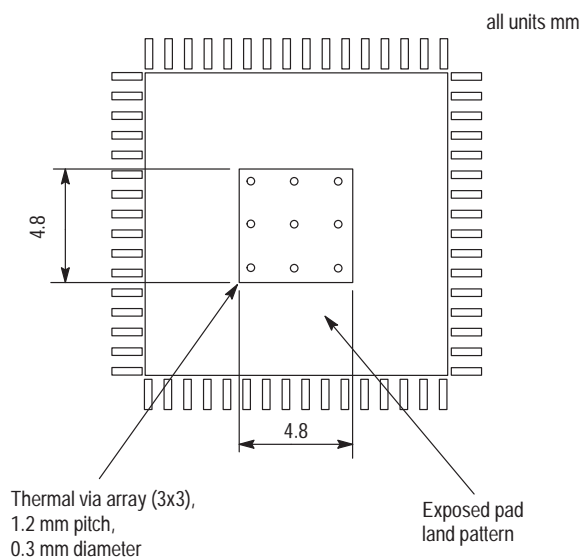

Figure 6. Recommended thermal land pattern
The MC100ES6220 uses a thermally enhanced exposed pad (EP) 52 lead LQFP package. The package is molded so that the leadframe is exposed at the surface of the package bottom side. The exposed metal pad will provide the low thermal impedance that supports the power consumption of the MC100ES6220 high-speed bipolar integrated circuit and eases the power management task for the system design. A thermal land pattern on the printed circuit board and thermal vias are recommended in order to take advantage of the enhanced thermal capabilities of the MC100ES6220. Direct soldering of the exposed pad to the thermal land will provide an efficient thermal path. In multilayer board designs, thermal vias thermally connect the exposed pad to internal copper planes. Number of vias, spacing, via diameters and land pattern design depend on the application and the amount of heat to be removed from the package. A nine thermal via array, arranged in a 3 x 3 array and using a 1.2 mm pitch in the center of the thermal land is a requirement for MC100ES6220 applications on multi-layer boards. The recommended thermal land design comprises a 3 x 3 thermal via array as shown in Figure 6 "Recommended thermal land pattern", providing an efficient heat removal path.